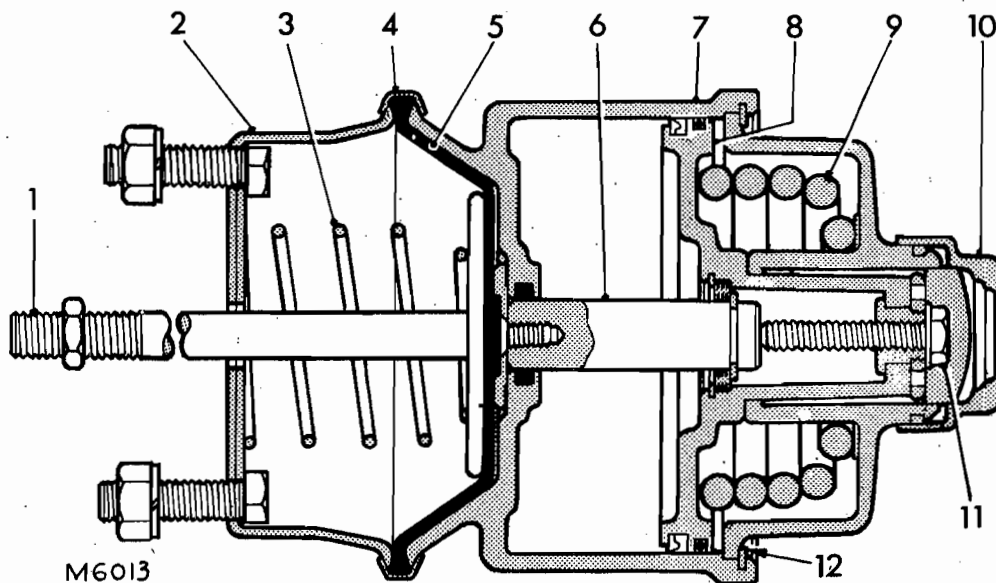

FIG. 1 TYPICAL SPRING BRAKE ACTUATOR
**DANGER:** Before starting work on the spring brake actuators, release all air from the system and remove the release bolt (located under the end cap). See paragraphs 1 and 2, and Fig. 1 below.